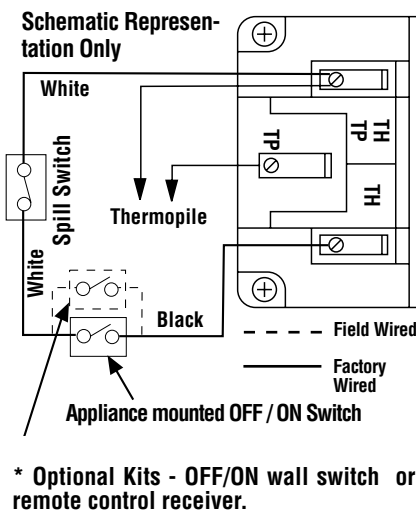

Figure 14
A. Millivolt Wiring (See **Figure 14**) –
- b. **Optional Control Switch** (OFF/ON wall switch or remote control receiver). Install snap bushing (provided in Electrical Outlet Kit) into control switch knock-out in side panel (see **Figure 9** on **Page 9**). Wire the optional control switch within the millivolt control circuit (as shown in **Figure 14**) using the 15 feet of 2 conductor wire supplied (route wires through the snap bushing to the optional control switch). Mount the optional control switch or wall thermostat in a convenient location on a wall near the fireplace.